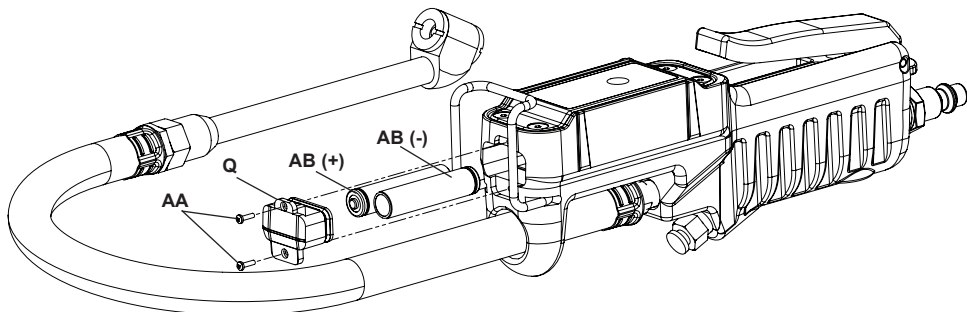

Figure 3
1. To change the batteries remove the 2 screws (AA) using a #0 Phillips Head Screwdriver and then remove the battery cover (Q).
2. Remove the batteries (AB).
3. Replace batteries with (2) 1.5 VDC AAA.
**NOTE: Make sure the batteries are inserted the correct way as shown in Figure 3.**